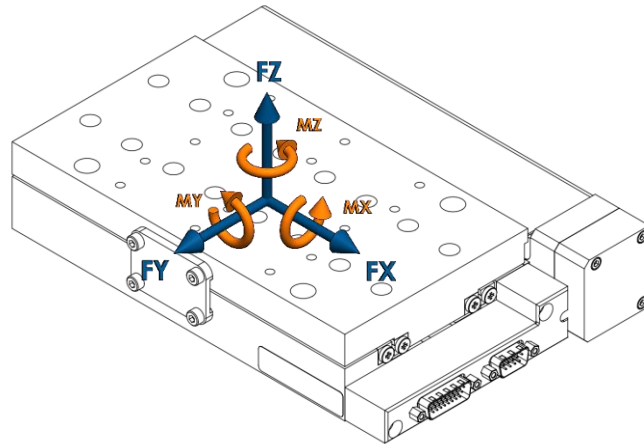

Figure 1. LNS Load Direction Reference
**Note 1:** Refer to Figure 1 for axis orientation for forces and moments.